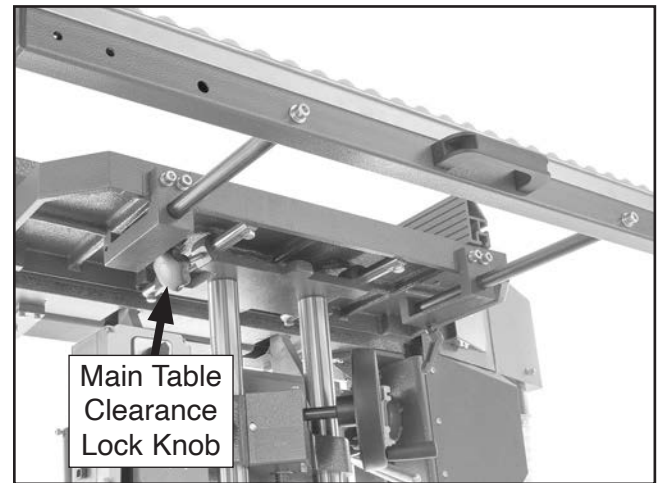

Figure 36. Location of main table clearance lock knob.
4. Loosen main table clearance lock knob (see **Figure 36**), then move main table away from platen.